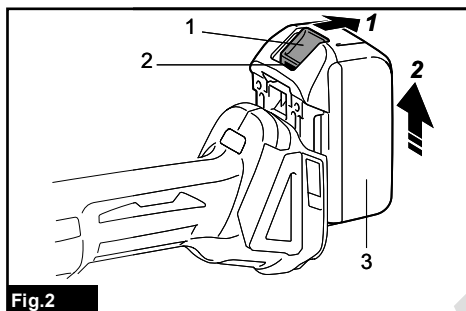

Fig.2
► Fig.2: 1. Button 2. Red indicator 3. Battery cartridge